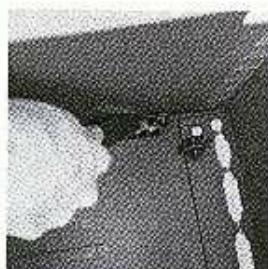

Figure 2-20
5. Use the tool to push the spring clip down against the top side of the tab on the center prong, as shown in Figure 2-20. This permanently spreads the prongs in the security slot, allowing you to insert the cable.